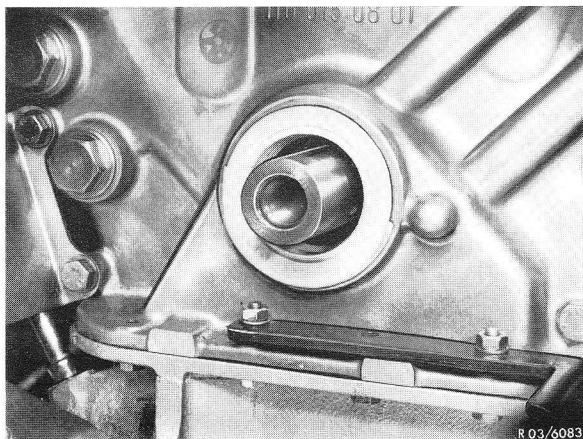

Fig. 1
- 2 Remove sealing ring by means of two screw drivers, making sure that the crankpin and the receiving bore for the sealing ring are not damaged (Fig. 1).